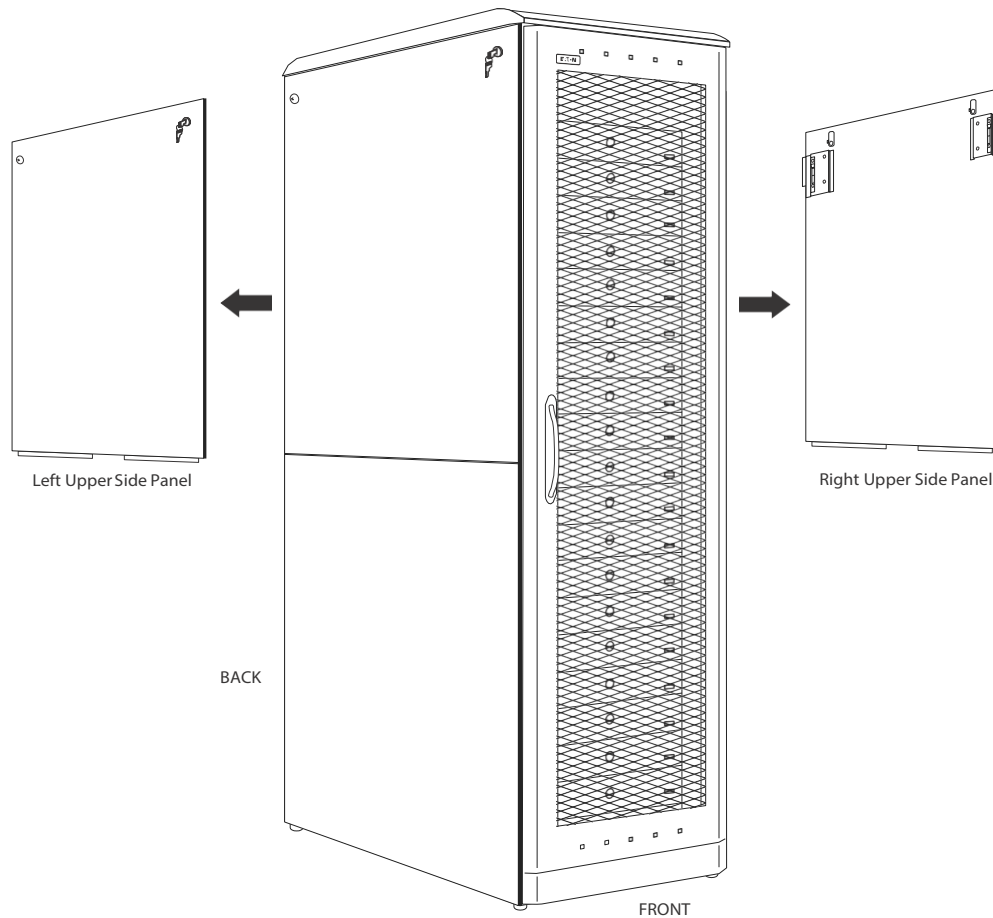

Figure 13. Removing the Upper Side Panels
2. To remove the upper side panels from the cabinet (see Figure 13):